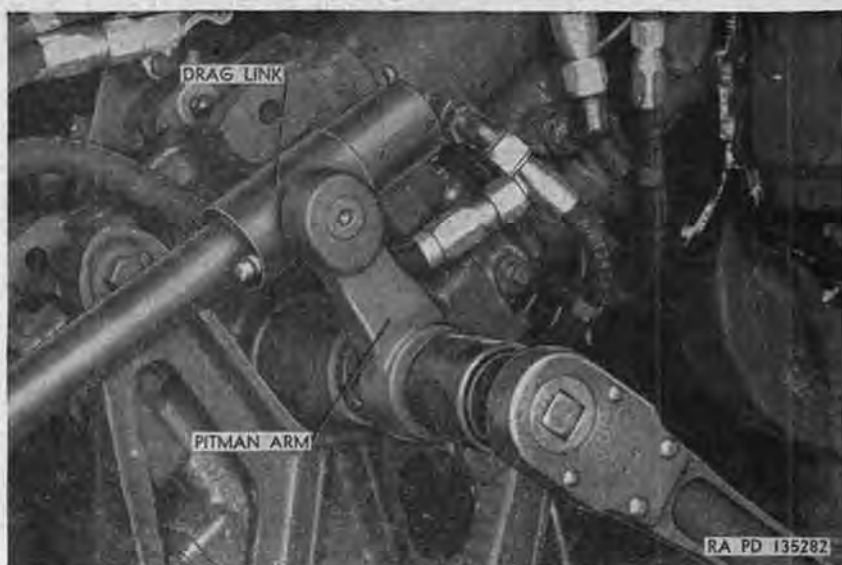

Figure 264. Removing steering wheel.
- (3) Using a puller (fig. 264), remove steering wheel from steering shaft.